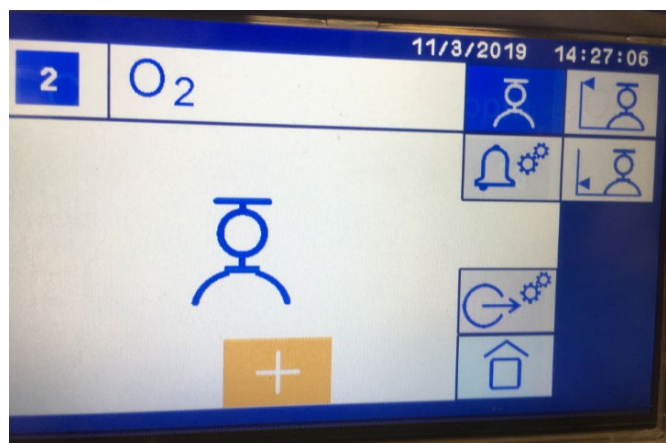

Figure 10-31: Add Assignment mode activated, manual calibration section
The screen shown in Figure 10-31 will appear.
d) Touch the  icon (see Figure 10-31) to assign the Manual Calibration to the Favorites page as shown below.